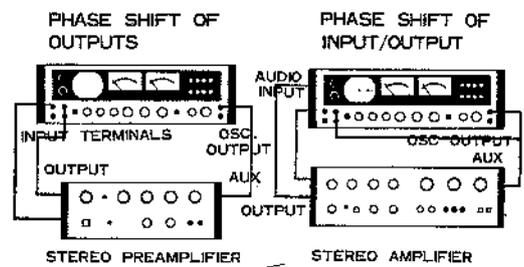

Fig. 18
1. Connect a preamplifier or stereo amplifier to the SD-1000 as shown in Fig. 18.